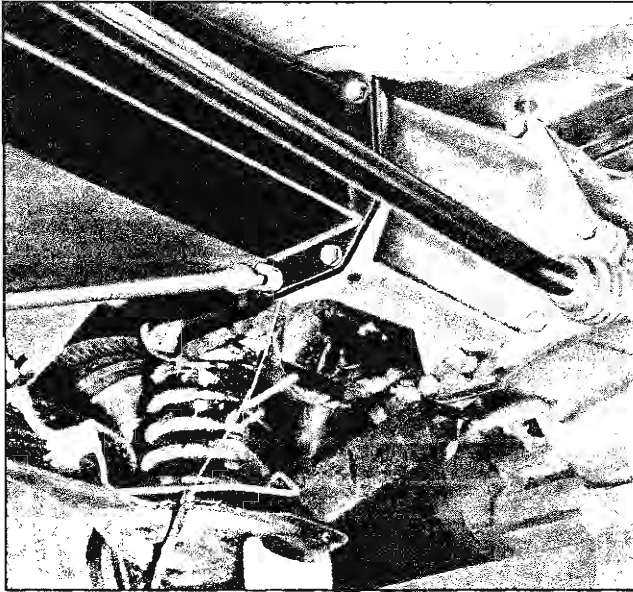

Fig. 4-15 Removing Bolts Connecting Torque Tube to Transmission
13. Remove six bolts connecting torque tube to transmission (Fig. 4-15).